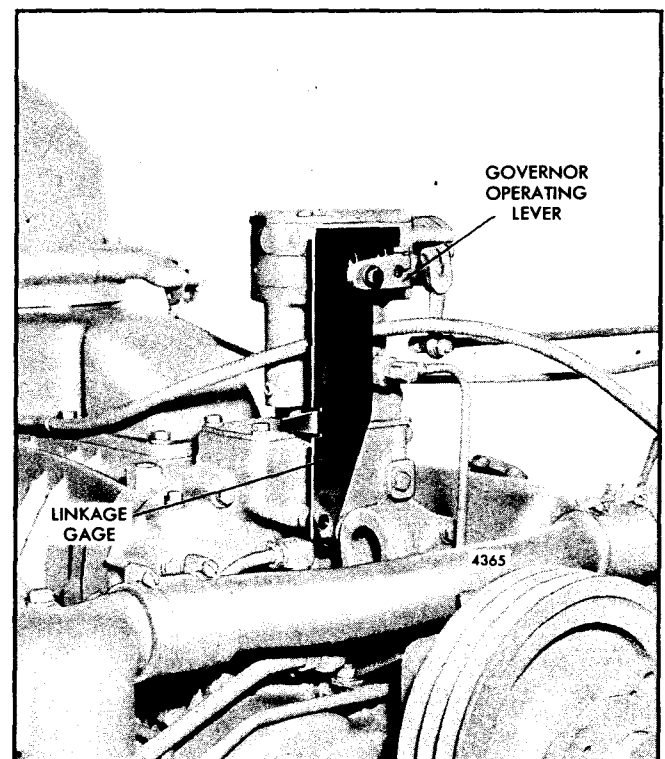

Fig. 5 - Governor Operating Lever in Position
14. Replace the governor operating lever on the serrated shaft so that the bolt hole is lined up within the proper lines on the gage (Fig. 5). The type of governor (SGX or PSG) will determine the proper position of the lever.